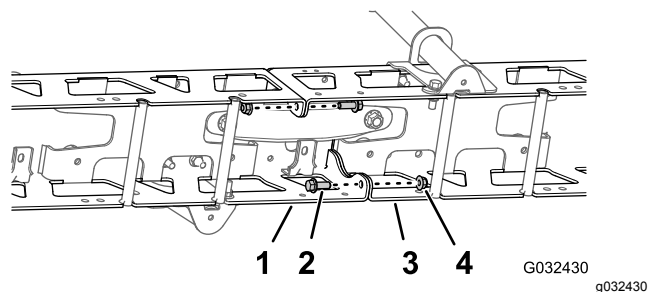

Figure 52
- Remove the 2 flange head bolts (3/8 x 1 inch) and 2 locknuts (3/8 inch) that secure the vertical flanges of the left and right truss frames (Figure 52).